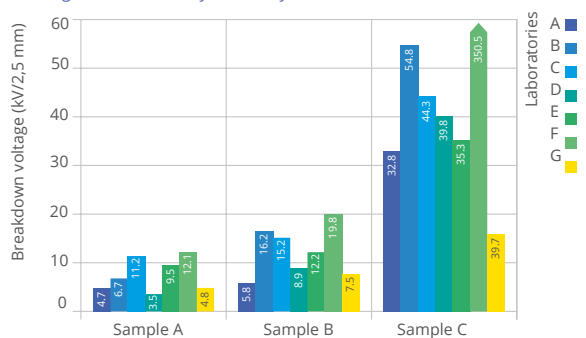

Figure 6. Reliability and Improvements of Water Titration*** by the Karl Fischer Technique
6. As the moisture level is anyway very low in oil, any contamination (simple contact with the ambient air) will affect the sample PPM result. The chart (figure 6) shows PPM analysis results of 7 different laboratories on 3 different oils.